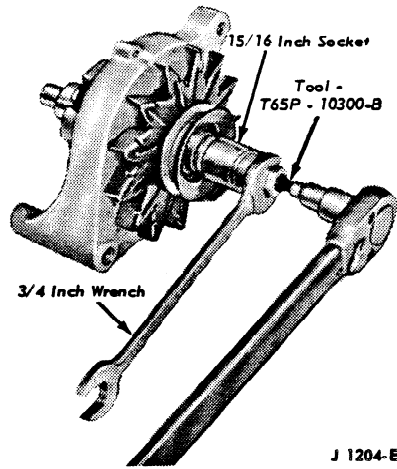

FIG. 18 Pulley Removal
9. Remove the drive pulley nut with the tool shown in Figure 18; then, pull the lock washer, pulley, fan, fan spacer, rotor and rotor stop from the rotor shaft.
5. Position the front housing, fan, spacer, fan, pulley and lock washer on the drive shaft and install the retaining nut. Tighten the retaining nut with the tool shown in Figure 18 to the specified torque.